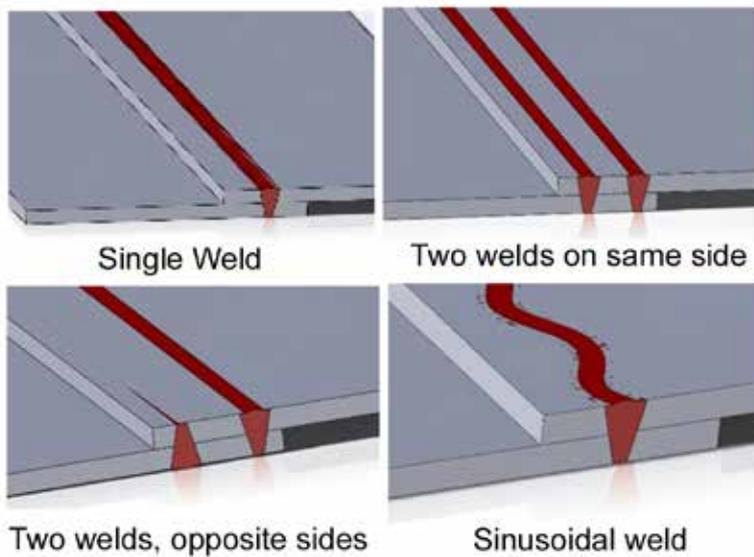

Figure 2. Possible weld configurations for titanium skin lap joints.
Various joint configurations are being tested, see Figure 2, to quantify static and dynamic mechanical properties. Coupled with this activity MTC are developing in-process inspection using laser ultrasound (LU) techniques and have demonstrated the capability to detect defects smaller than required by the relevant welding standards. LU capability to detect standard required defects and sizes has been validated